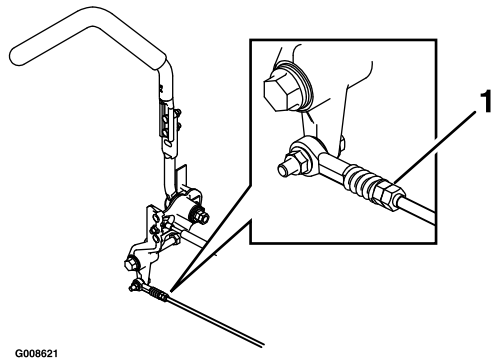

Figure 34
- 7. Bring the motion control levers into the neutral position. Adjust pump control rod lengths by rotating the double nuts on the rod in the appropriate direction until the wheels slightly creep in reverse (Figure 34). Move the motion control levers to the reverse position and while applying slight pressure to the lever allow the reverse indicator springs to bring the levers back to neutral. The wheels must stop turning or slightly creep in reverse.